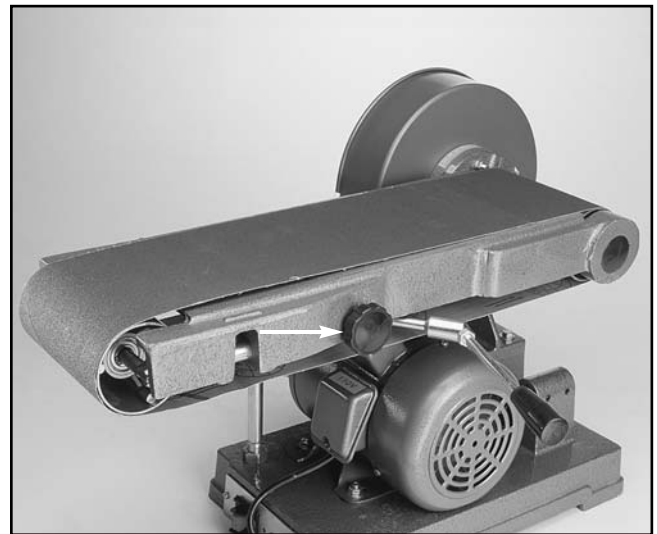

Figure 8.
1. To adjust the tracking, quickly turn the sander on and off. Observe the belt's behavior. If the belt moves to one side or the other, you will need to adjust the tracking knob. **Figure 8.**